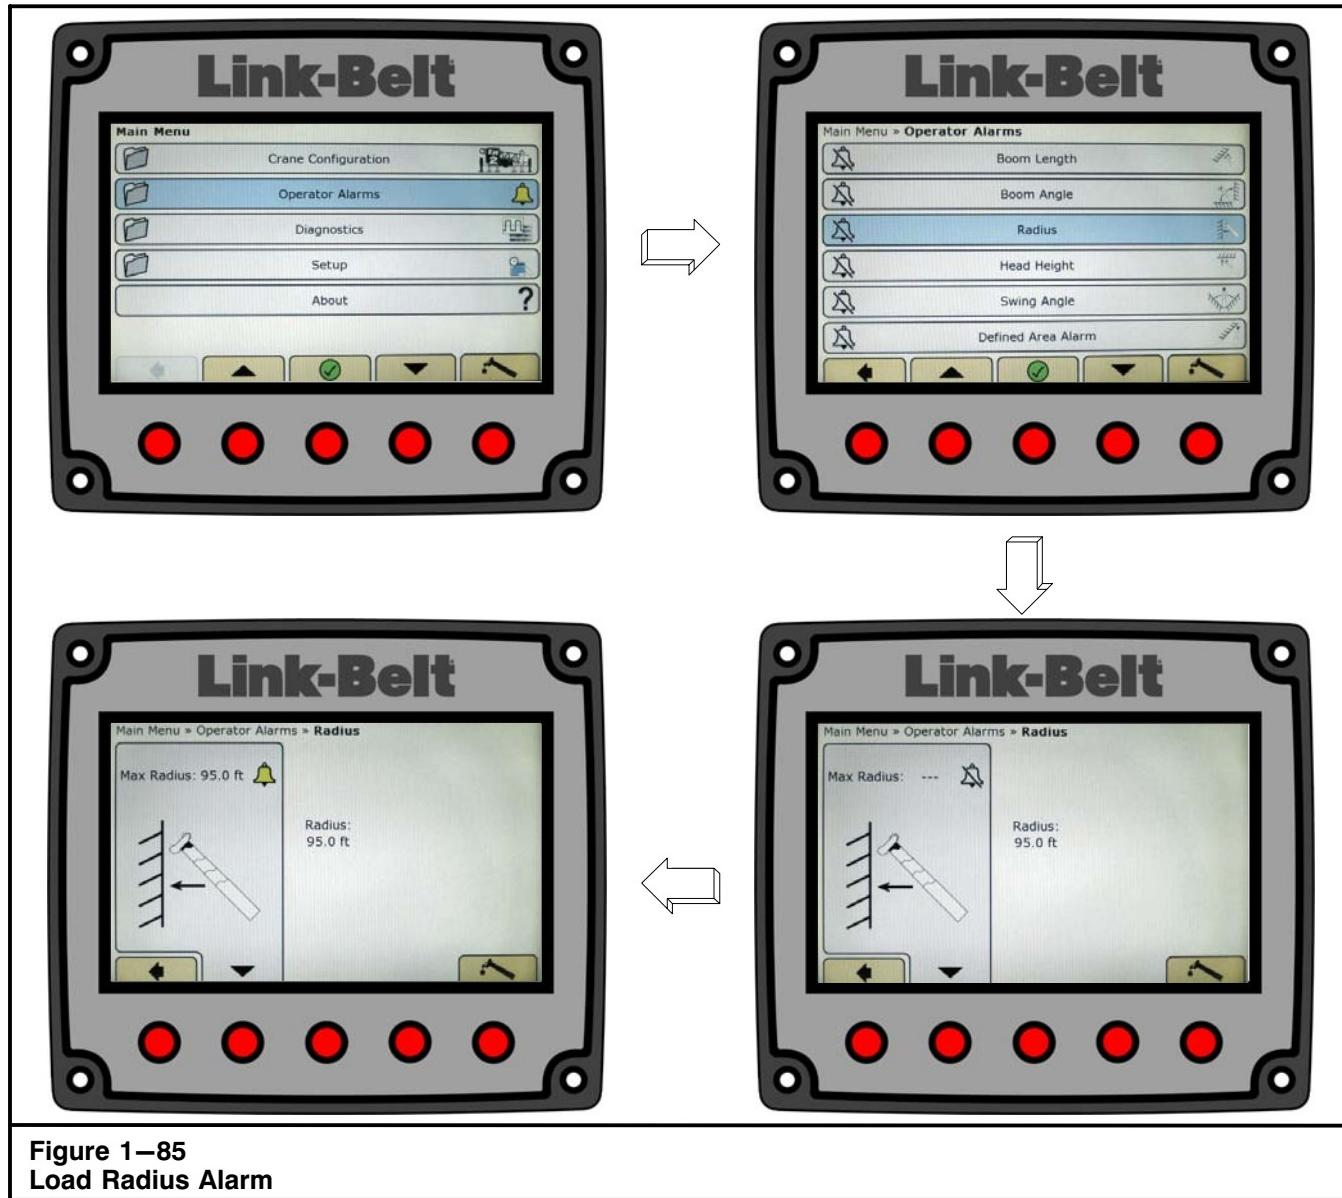

Figure 1–85
1. From the normal working screen, press the Main Menu button . Refer to Figure 1–81.
2. Scroll to Operator Alarms, and press the OK/Enter button . Refer to Figure 1–85.